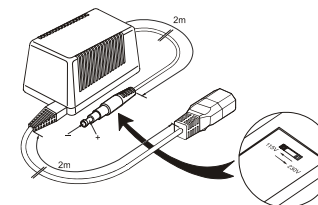

Fig. 2. PM8907
- PM8907/808 Power Adapter (Fig. 2)